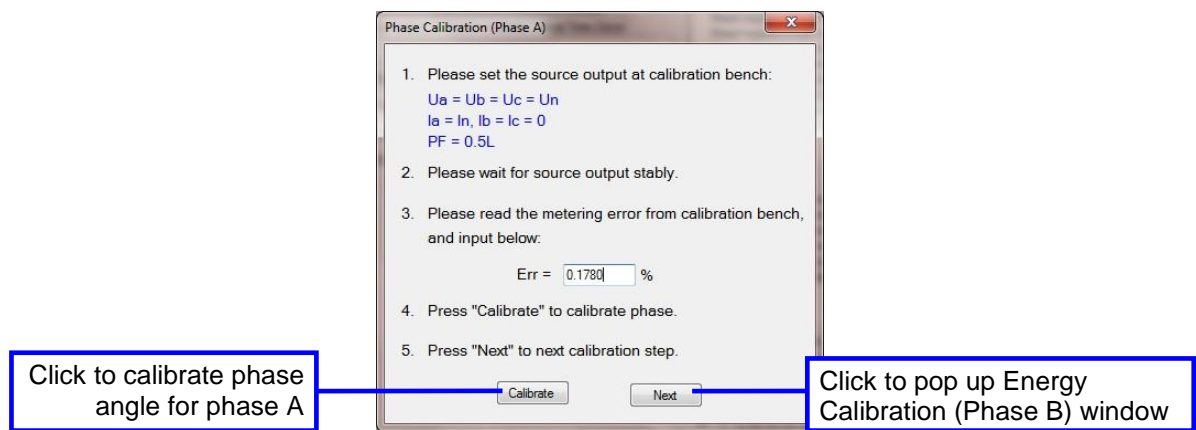

Figure 3-10 Phase Angel Calibration (Phase A)
- Phase Angle (Phase A). Refer to Figure 3-10.